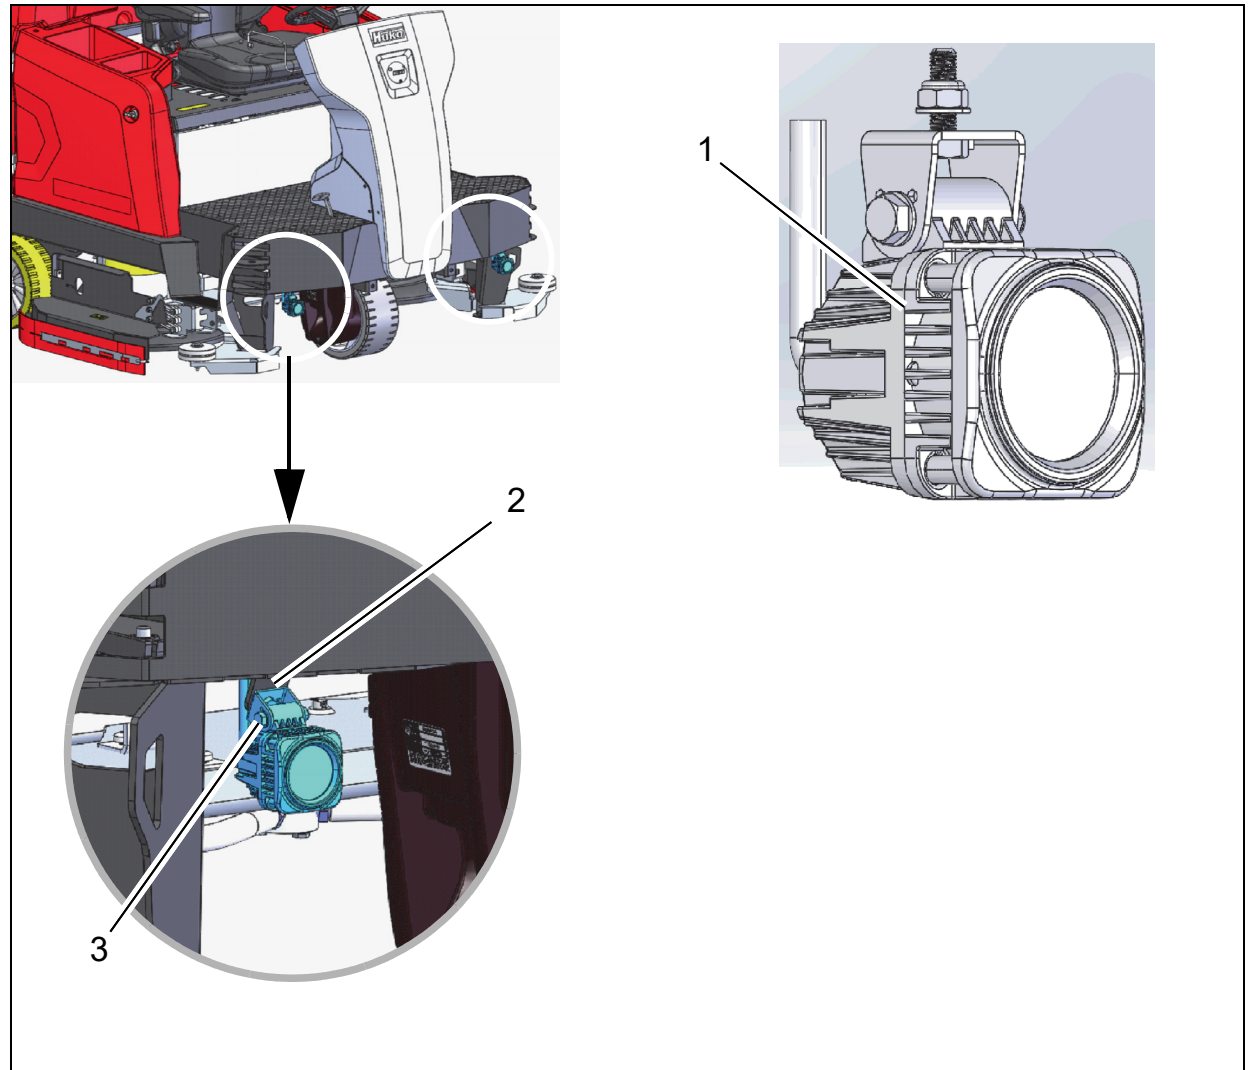

Fig. 1
2x front LED working light, pre-assembled (Fig. 1/1)
2. Underneath the bumper of the basic machine, there are two tabs with a through hole (Fig. 1/2). Feed the thread of the LED working light through the hole.
3. Attach the LED working light to the tab using the washer and the nut (Fig. 1/3).